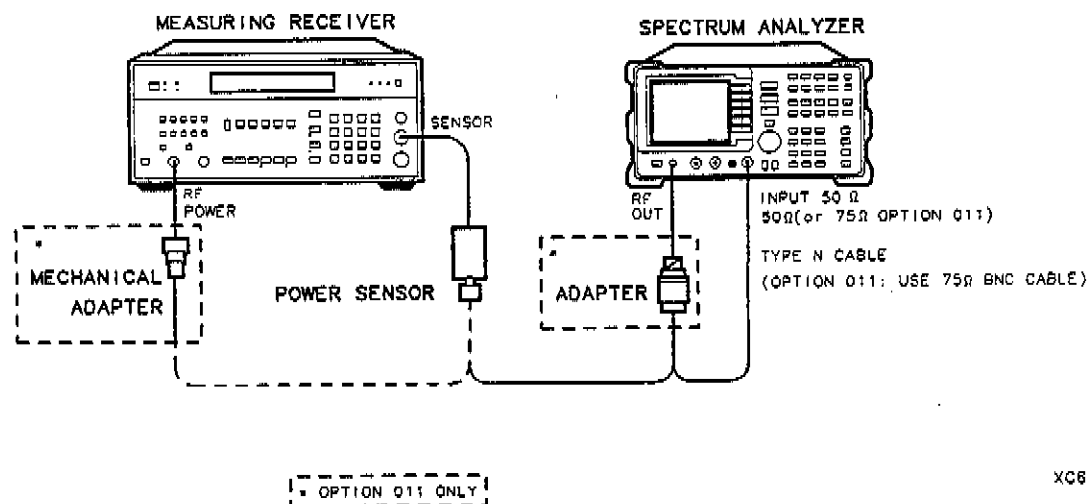

Figure 1-30. Absolute Amplitude, Vernier, and Power Sweep Accuracy Test Setup
1. Connect the Type N cable between the RF OUT 50 Ω and INPUT 50 Ω connectors on the spectrum analyzer. See Figure 1-30.
5. Disconnect the Type N cable from the RF OUT 50 Ω and connect the 100 kHz to 1800 MHz power sensor to the RF OUT 50 Ω as shown in Figure 1-30.